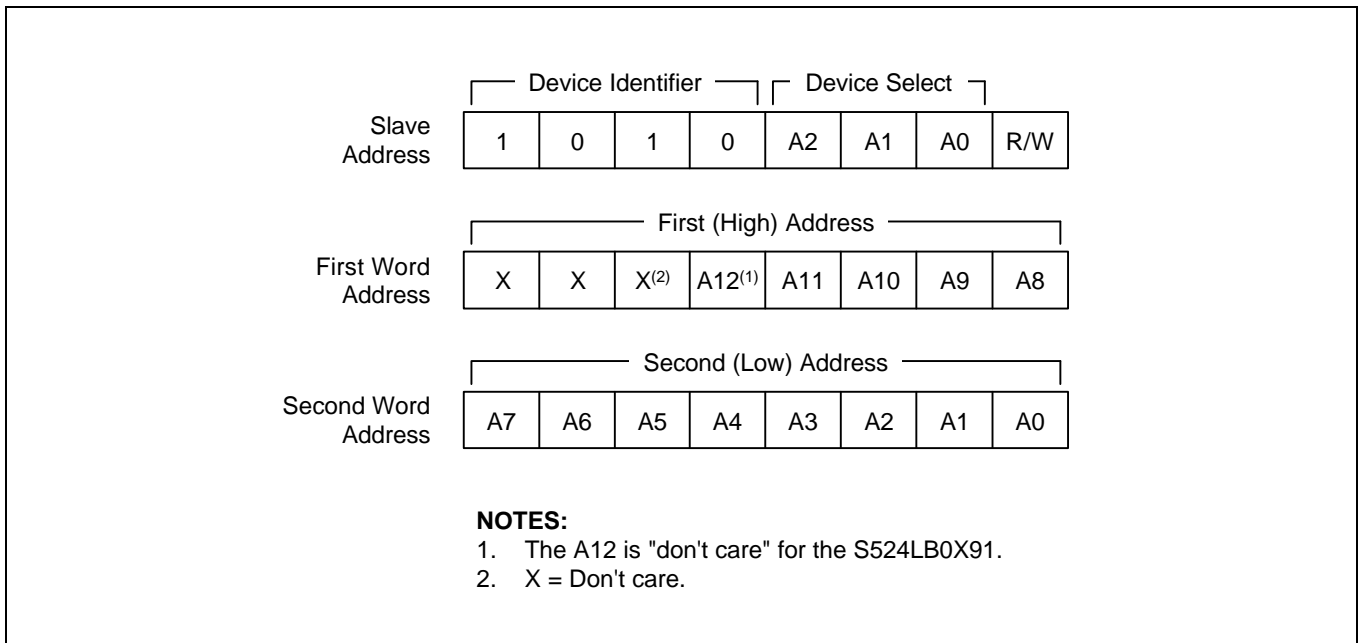

Figure 7-9. Device Address
- **Slave Address:** After the master initiates a start condition, it must output the address of the device to be accessed. The most significant four bits of the slave address are called the “device identifier.” The identifier for the S524LB0D91/B0DB1 is “1010B”. The next three bits comprise the address of a specific device. The device address is defined by the state of the A0, A1, and A2 pins. Using this addressing scheme, you can cascade up to eight S524LB0D91/B0DB1s on the bus (see Figure 7-9 below).